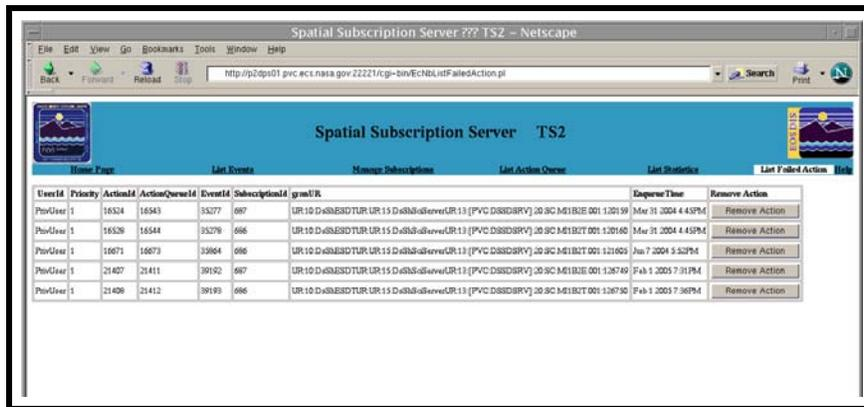

Figure 16.1-18. List Failed Action Page
- The **List Failed Action** page is displayed (see Figure 16.1-18) with a table listing acquire and notification actions that are being processed.